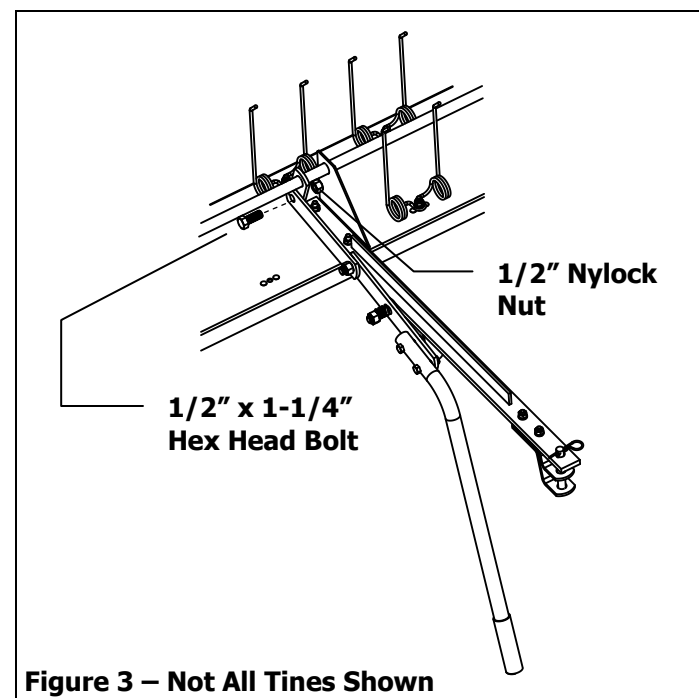

Figure 3 – Not All Tines Shown
5. Remove 1/2" nylock nut and 1/2" x 1-1/4" hex head bolt from the end of the handle/lever assembly. See figure 3.
6. Attach the handle/lever assembly to the axle link using the 1/2" nylock nut and 1/2" x 1-1/4" hex head bolt removed in step 5. **DO NOT** over tighten, handle/lever should pivot freely. See figure 3.